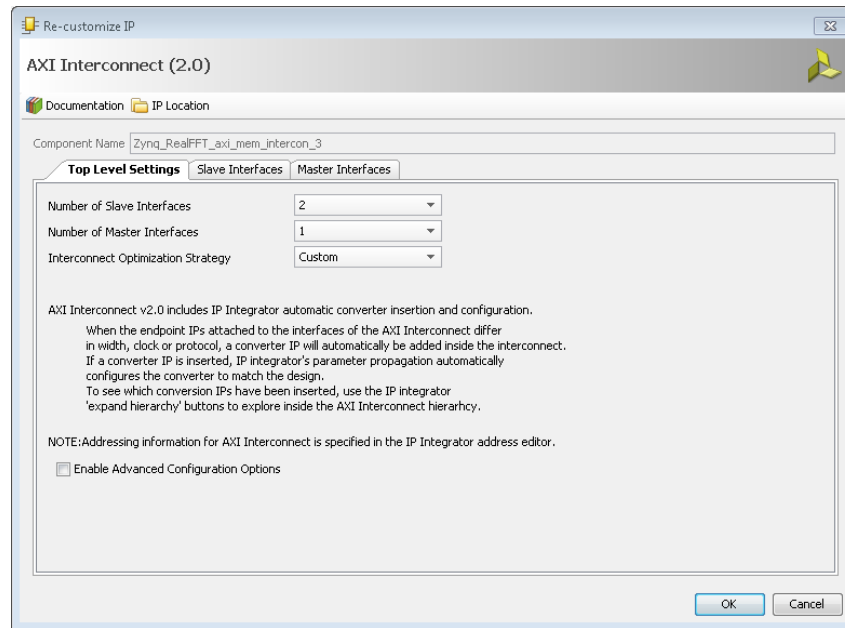

Figure 260: Customizing the AXI Interconnect
- After running Design Assistance, the diagram appears similar to the one shown in Figure 260.
- a. Change the Number of Slave Interfaces from 1 to 2 (**Figure 260**).